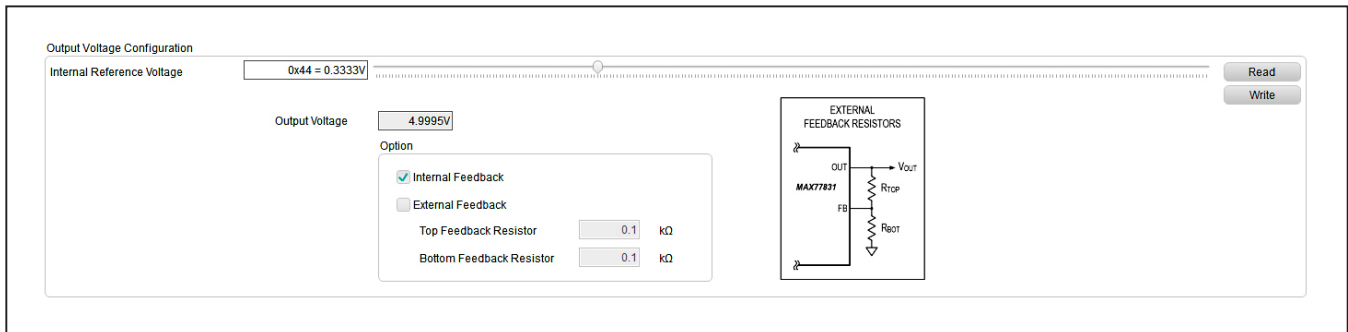

Figure 10. Configuration Tab - Output Voltage Configuration Section
The Output Voltage Configuration section (Figure 10) configures the EV kit IC’s output voltage. The output voltage is changed by adjusting the internal reference voltage. Drag the slider to the desired internal reference voltage (or output voltage) and click **Write** to change the output voltage. Clicking **Read** returns the programmed internal reference voltage (or output voltage) to the GUI.
**Note:** Changing the Internal Feedback or External Feedback checkboxes (Figure 10) does NOT change the feedback configuration on the EV kit. It is only for calculating and displaying the correct output voltage value on the GUI software. If you wish to change the EV kit’s feedback configuration, see the EV Kit Hardware Output Voltage Configuration section for details.